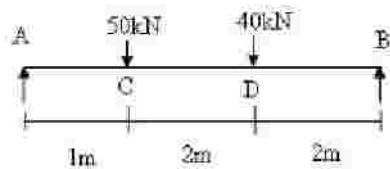

Fig. 1
- Q.2** (a) A simply supported beam is loaded as shown in the fig.1. Determine the deflection under C and D using Macaulay's method. **07**